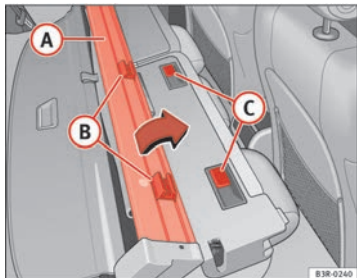

Fig. 123 Installing luggage compartment cover / net partition
- Fit the net partition **A** on the backrest so that the retainers **B** are located next to the retaining rails **C** ⇒ fig. 123.